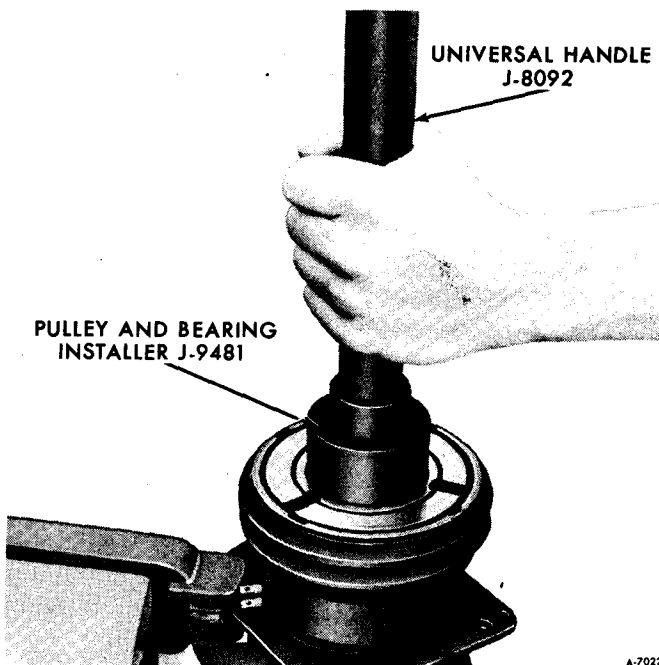

Figure 79—Installing Pulley and Bearing Assembly
3. Press or tap pulley and bearing assembly on neck of compressor until it seats, using Pulley and Bearing Installer J-9481 with Universal Handle J-8092 (figure 79). The Installer